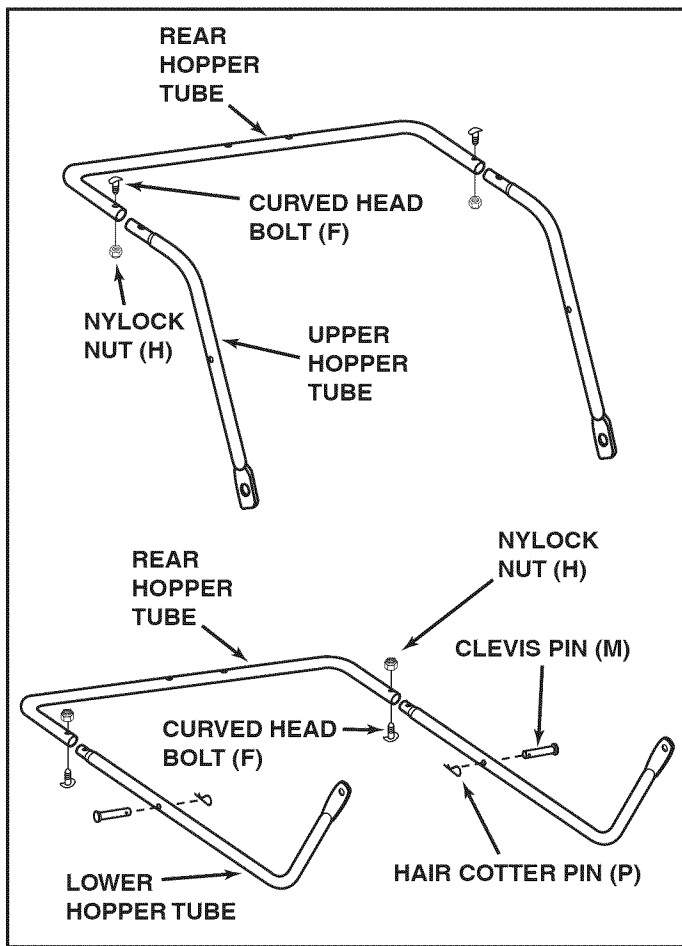

FIGURE 7
- Fit the ends of the two upper hopper tubes into the ends of a rear hopper tube. Align the holes in the ends of the tubes and secure them in place using two curved head bolts (F) and nylock nuts (H). See figure 7.
- Fit the ends of the two lower hopper tubes into the ends of a rear hopper tube. Align the holes in the ends of the tubes and secure them in place using two curved head bolts (F) and nylock nuts (H). See figure 7.
- Insert a clevis pin (M) from the outside into each lower hopper tube and secure it with a hair cotter pin (P). See figure 7.